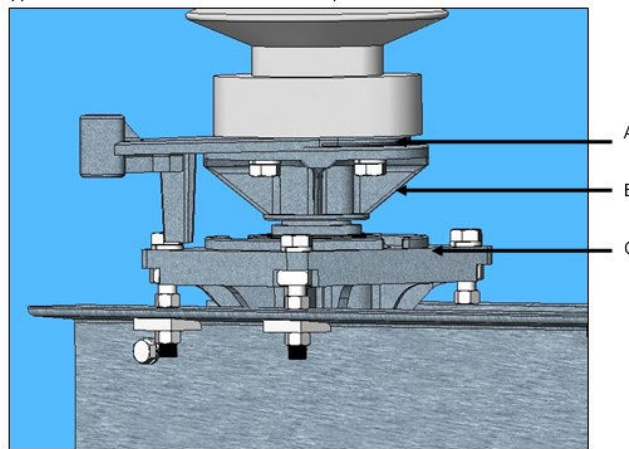

Figure 2: Match-Marked Components
- 1.3. Before disassembling the live parts from the switch base you must match mark the insulator bearing hub, switch arm, and rotating base to ensure correct reassembly (**See Figure 2**). Match-mark A to B and B to C. Failure to complete this step will make final adjustment more difficult.